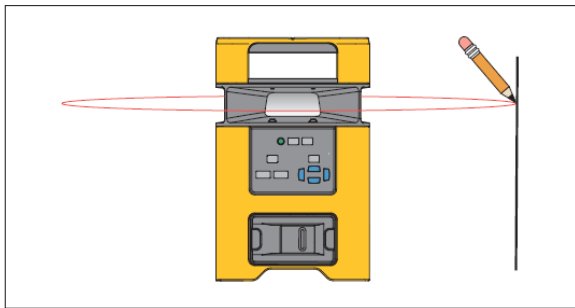

Figure 5. New Level Mark
1. Put the bottom of the Product on a stable surface. See Figure 5.